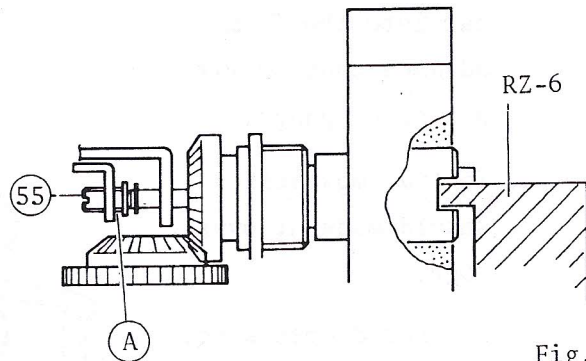

Fig. 99
1. When the signal lever is disengaged out of the slot, push the signal bar with the RZ-6 gauge (3.9). (Fig. 99)
2. Screw in the (55) adjusting screw on the end of the signal lever until it touches to the signal bar.
3. Set a snap ring to the (A) part and turn the screw counter clockwise and then apply some adhesive to the screw.